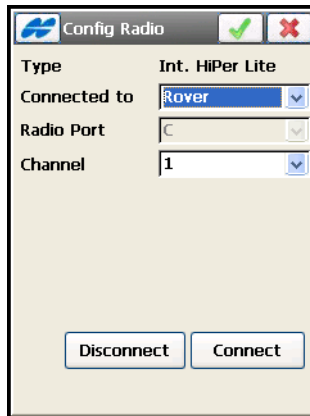

Figure 8-33. Config Internal HiPer Lite
**For the FH915 Modem: Internal HiPer Lite** set the operating channel for the modem on the *Config Radio* screen (Figure 8-33).